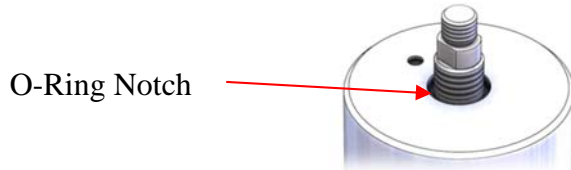

Figure 55: Top Entry Adjustment Screw O-Ring Notch
6. Carefully place the adjustment screw o-ring onto the adjustment screw making sure not to cut the o-ring. The o-ring should reside in a notch on the bonnet. See Figure 55.